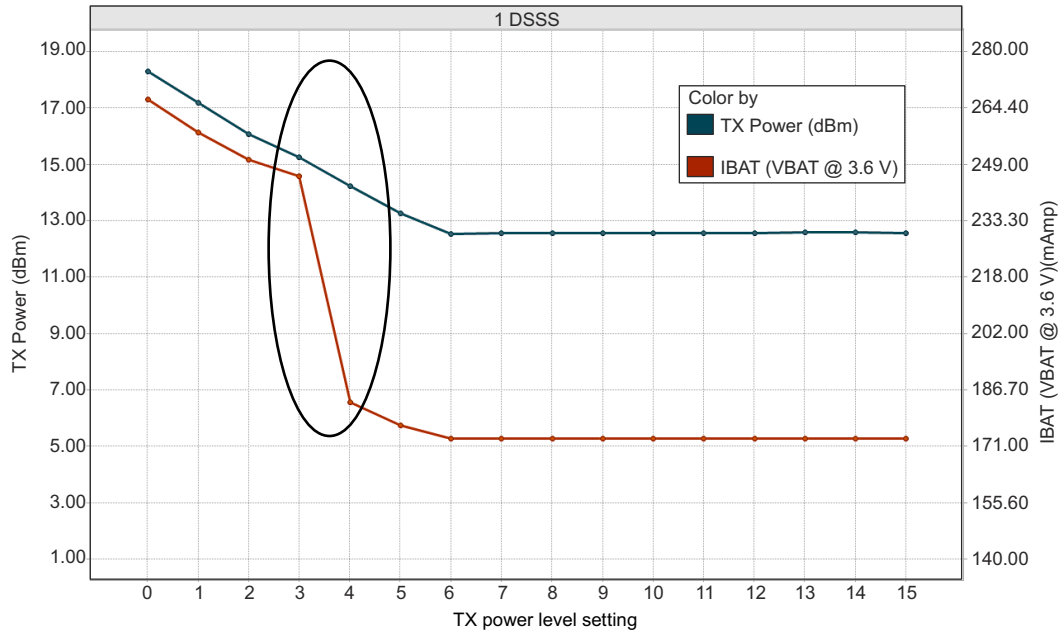
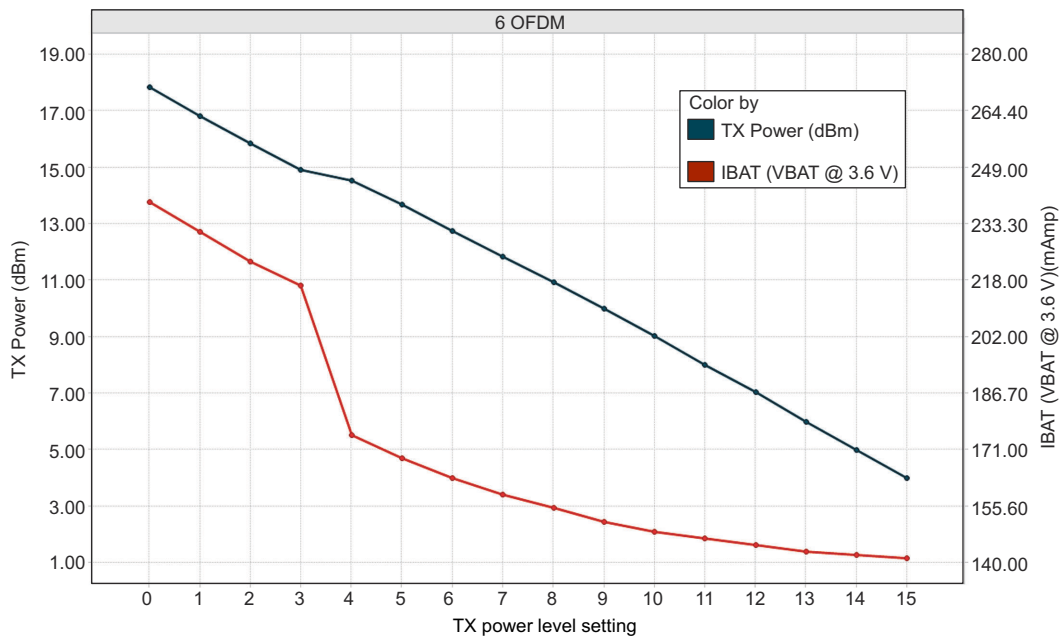
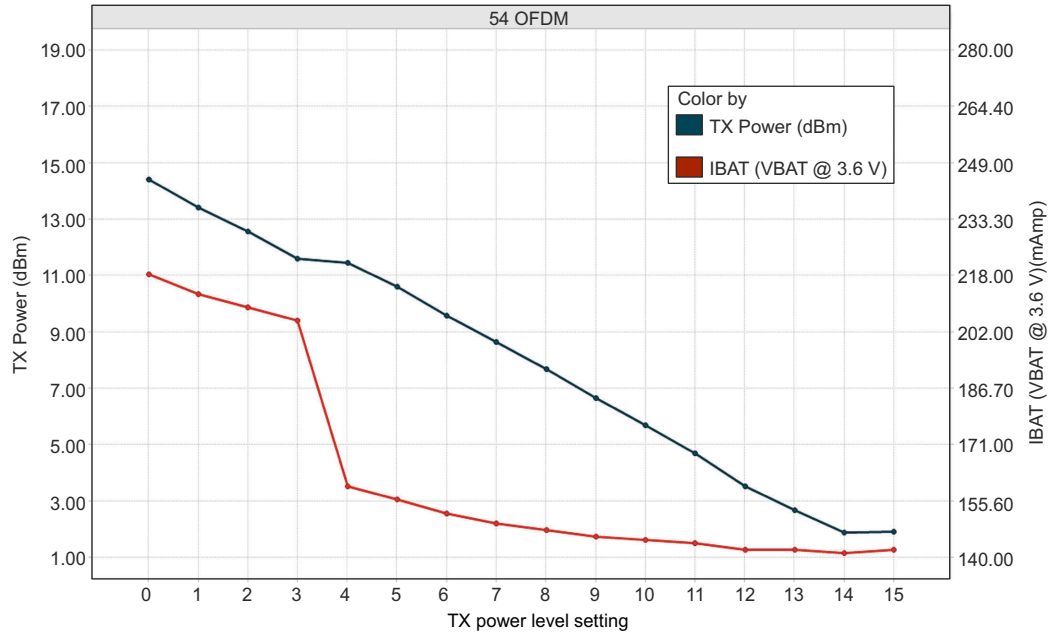

图 7-1. TX Power and IBAT vs TX Power Level Settings (1 DSSS)
图 7-2. TX Power and IBAT vs TX Power Level Settings (6 OFDM)
图 7-3. TX Power and IBAT vs TX Power Level Settings (54 OFDM)
- (1) TX power level = 0 implies maximum power (see 图 7-1, 图 7-2, and 图 7-3). TX power level = 4 implies output power backed off approximately 4 dB.
- (2) LPDS current does not include the external serial flash. The LPDS number of reported is with retention of 256KB of MCU SRAM. The CC3230x device can be configured to retain 0KB, 64KB, 128KB, 192KB, or 256KB of SRAM in LPDS. Each 64-KB block of MCU retained SRAM increases LPDS current by 4 μA.
- (3) DTIM = 1
- (4) The complete calibration can take up to 17 mJ of energy from the battery over a time of 24 ms. In default mode, calibration is performed sparingly, and typically occurs when re-enabling the NWP and when the temperature has changed by more than 20°C. There are two additional calibration modes that may be used to reduced or completely eliminate the calibration event. For further details, see CC31xx, CC32xx SimpleLink™ Wi-Fi® and IoT Network Processor Programmer's Guide.
- (5) The CC3230x system is a constant power-source system. The active current numbers scale based on the V_{BAT} voltage supplied.
- (6) Typical numbers assume a VSWR of 1.5:1.
- (1) TX power level = 0 implies maximum power (see 图 7-1, 图 7-2, and 图 7-3). TX power level = 4 implies output power backed off approximately 4dB.
- (2) LPDS current does not include the external serial flash. The LPDS number of reported is with a retention of 256KB of MCU SRAM. The CC3230x device can be configured to retain 0KB, 64KB, 128KB, 192KB, or 256KB of SRAM in LPDS. Each 64-KB block of MCU retained SRAM increases LPDS current by 4μA.
- (4) The complete calibration can take up to 17 mJ of energy from the battery over a period of 24 ms. Calibration is performed sparingly, typically when coming out of HIBERNATE and only if the temperature has changed by more than 20°C. The calibration event can be controlled by a configuration file in the serial flash.
- (5) Typical numbers assume a VSWR of 1.5:1.
图 7-1, 图 7-2, and 图 7-3 show TX power and IBAT versus TX power level settings for the CC3230S device at modulations of 1 DSSS, 6 OFDM, and 54 OFDM, respectively. For the CC3230SF device, the IBAT current has an increase of approximately 10mA to 15mA depending on the transmitted rate. The TX power level will remain the same.
In 图 7-1, the area enclosed in the circle represents a significant reduction in current during the transition from TX power level 3 to level 4. In the case of lower range requirements (14dBm output power), TI recommends using TX power level 4 to reduce the current.